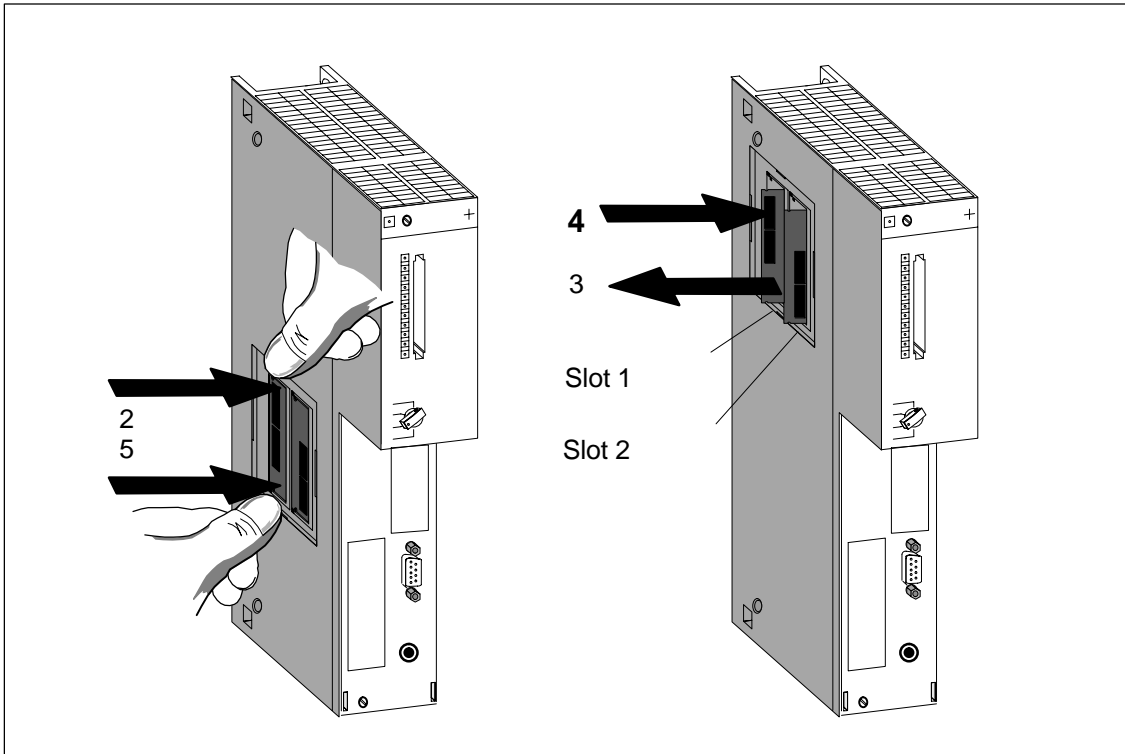

Figure 8-28 Removing Memory Cards from the CPUs
2. Press both lateral retaining springs to release the lock of the desired memory card. The card is raised at an angle of 45° (see Figure 8-28).
3. Remove the memory card from the connector (see Figure 8-28).
4. Push the new memory card at an angle of about 45° into the free connector as far as it will go (see Figure 8-28).
5. Press the new memory card on the protruding side in the direction of the PCB until it engages with the two retaining springs (see Figure 8-28).